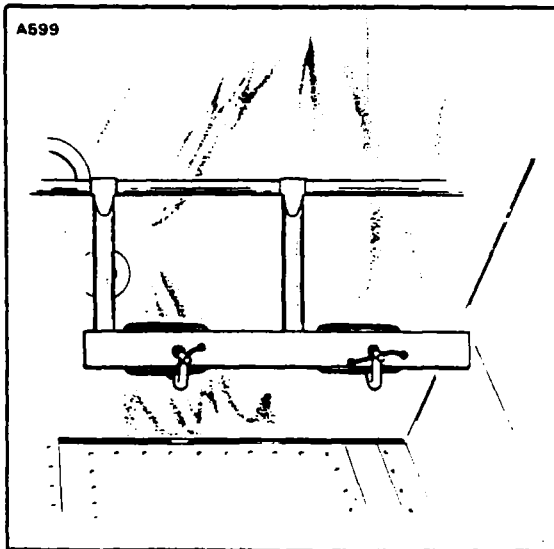
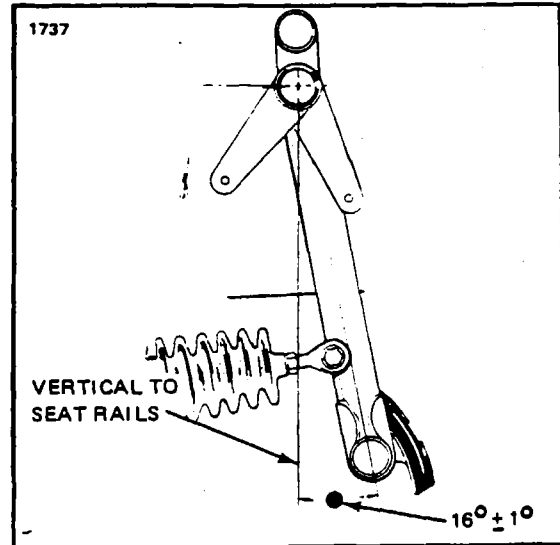

Figure 7-4. Clamping Rudder Pedals in Neutral Position
Figure 7-5. Rudder Pedals at Neutral Angle
- h. Clamp the rudder pedals to align them in a lateral position. Ascertain that the rudder pedals are in their neutral position. (Refer to Figure 7-4 and Figure 7-5.)
- l. Place a bubble protractor against a rudder pedal steering tube to check the neutral angle. (Refer to Figure 7-5.)